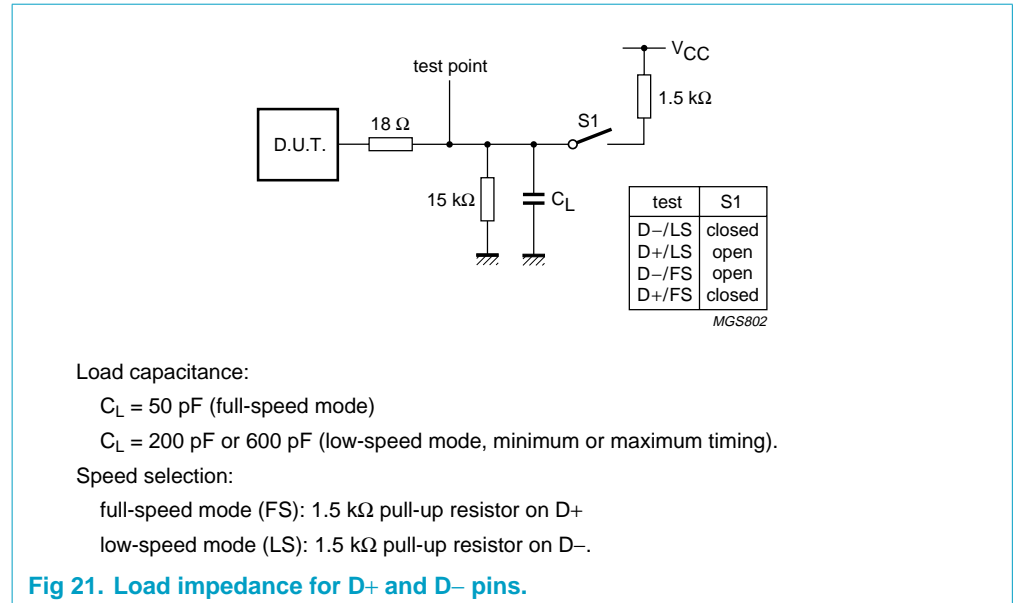

Fig 21. Load impedance for D+ and D- pins.
[1] Test circuit: see Figure 21.
- [1] Test circuit: see Figure 21.
The dynamic characteristics of the analog I/O ports (D+ and D-) as listed in Section 16, were determined using the circuit shown in Figure 21.